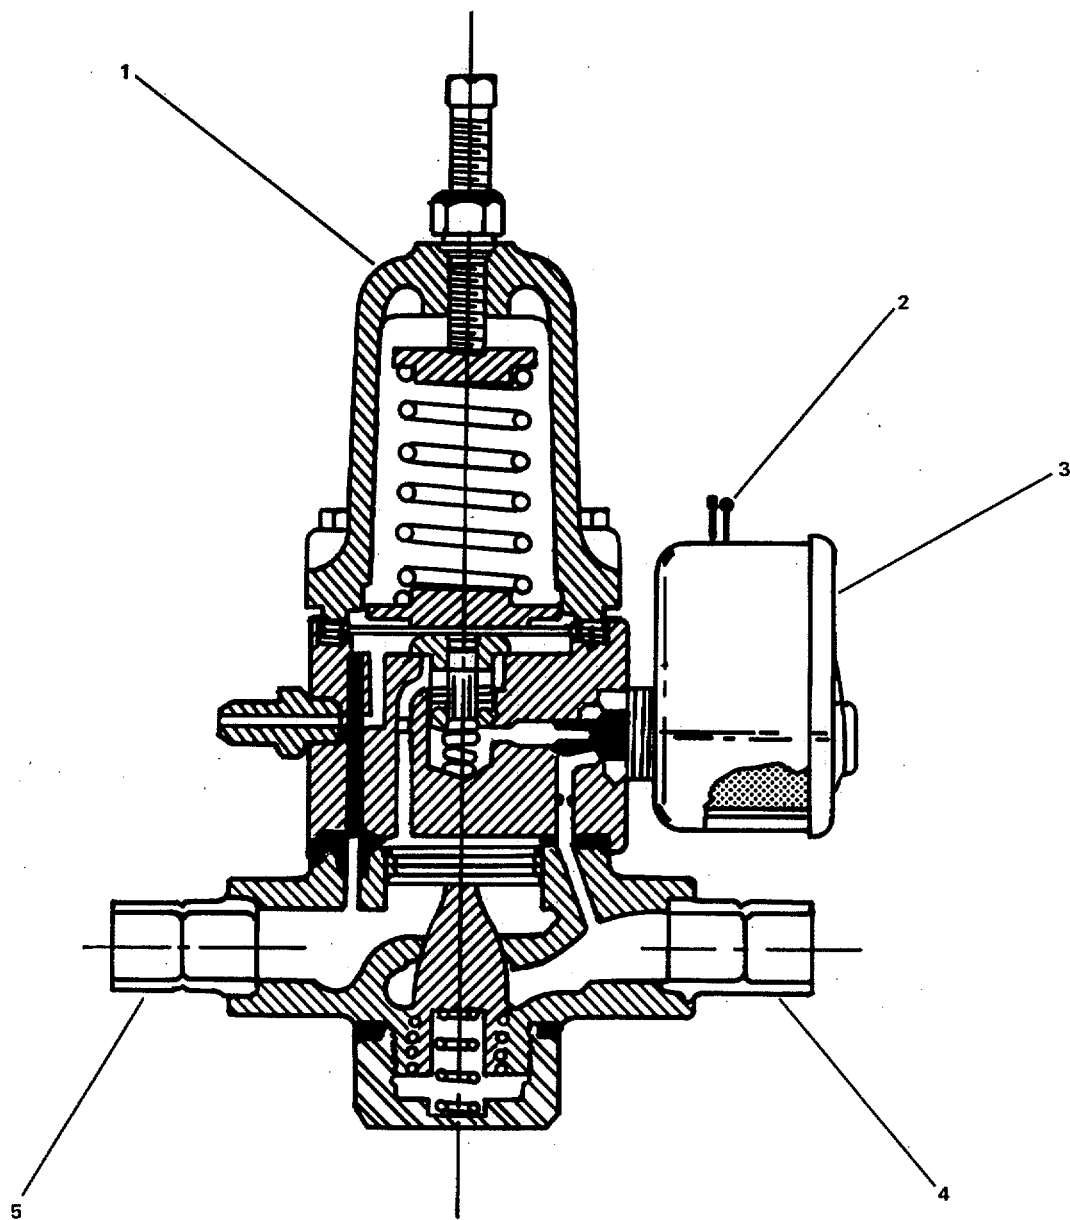

Figure 4-6. Hot Gas Valve.
- c. Replace hot gas valve (1, FIGURE 4-6) as follows: